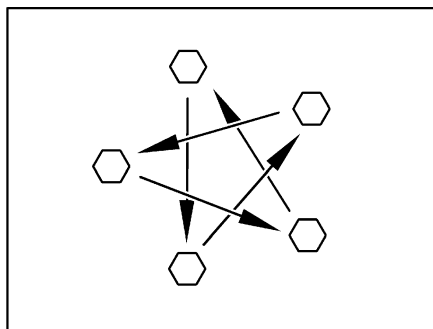

Fig. 158 Tighten the wheel nuts or wheel bolts cross-wise
- Check regularly that the wheel nuts or wheel bolts are firmly seated. Re-tighten the wheel bolts of a changed wheel cross-wise after 50 km (30 miles) (Fig. 158).
- ▶ Tighten the wheel nuts or wheel bolts cross-wise (Fig. 158).